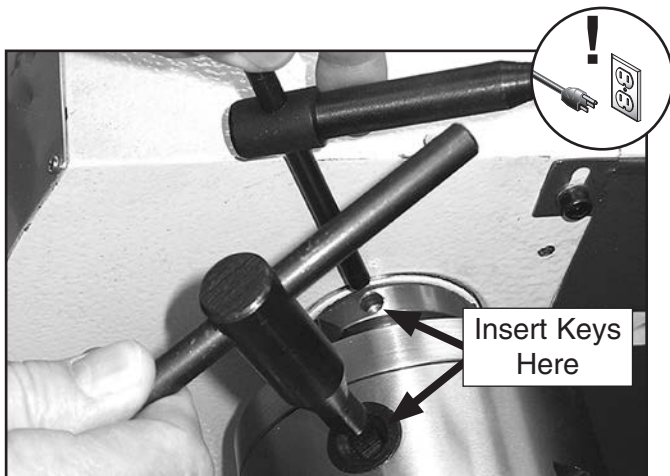

Figure 25. Location to insert chuck keys when removing chuck.
4. Insert the chuck wrenches, as shown in **Figure 25**, then while holding the spindle, unthread the chuck in a counterclockwise direction.